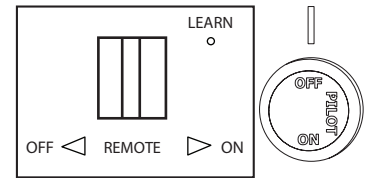

Fig. 17 - Receiver & Control Knob
- Set receiver switch to “ON” position (See Fig. 17).
3. Turn control knob clockwise ↻ to the “OFF” position (See Fig. 17).
4. Wait five (5) minutes to clear out any gas. Then smell for gas, including near the floor. If you smell gas, STOP! Follow “B” in the safety information on the page before this. If you don’t smell gas, go to the next step.
5. Push in slightly and turn control knob counterclockwise ↻ to the “PILOT” position (See Fig. 17). Depress control knob.